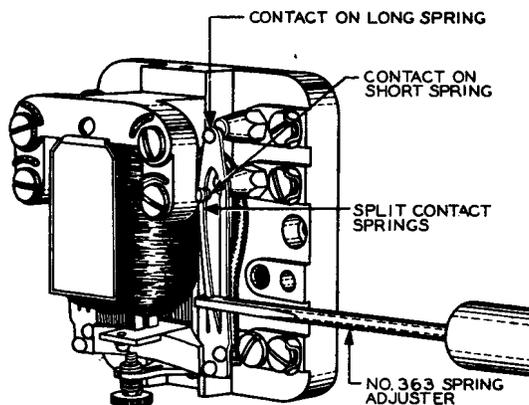

Fig. 9 - Method of Adjusting for Contact Sequence on Split Contact Springs
(2) With the exception of KS-5635 and KS-15601 relays which are covered in (1) above, if the relay is equipped with split contact springs and the contact on the long spring does not close at the same time as the contact on the short spring, the trouble may be due to an unsatisfactory position of either the long or short spring. If either leg of the long spring is bowed or bent, straighten it with the duck-bill pliers as outlined in 3.03(1) and adjust the short spring as follows: Place the No. 363 spring adjuster on the short spring just below the contact. This may be facilitated by lifting the short spring with a toothpick. Slide the adjuster back along the spring as far as possible without forcing as shown in Fig. 9. Adjust the spring as required. Take care when doing this, as in general, only slight adjustment of the spring is necessary. Slide the spring adjuster toward the free end of the spring and then withdraw it. If difficulty is experienced in obtaining simultaneous closure of contacts on both NO and NC contacts, give preference to the NC contacts in making the adjustment, as the movement of the armature will, in general, overcome any slight differences in the closure of the contact. When access to the springs from the side is impossible, follow 3.03(1)(b). If any adjustments are made, recheck alignment (2.03).